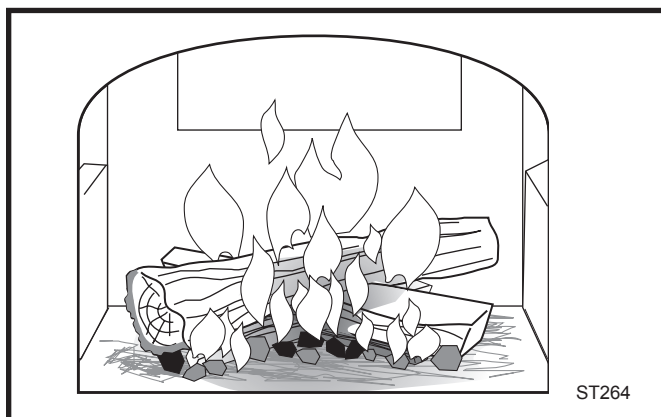

Fig. 34 Add larger pieces of wood as the fire begins to burn well.
4. If your Defiant has been broken-in previously using Steps 1-3, continue to build the fire gradually. Add larger wood with a diameter of 3-4" (75-100 mm). Continue adding split logs of this size to the briskly-burning fire until there is a glowing ember bed at least 3" (75 mm) deep. (Fig. 34) A good ember bed is necessary for proper functioning of the catalytic system and may take an hour or more to establish.